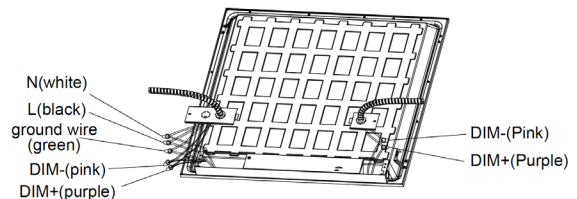

Fig. 5
5. Connect all power and dimming wires accordingly (Fig. 5) *Note: Dimming wires can be connected on either side of fixture*